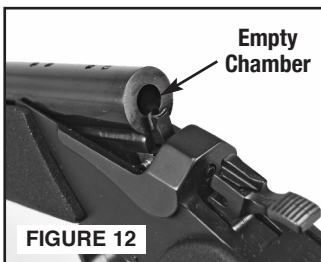

FIGURE 12
- Look into the barrel from the breech end to make sure there is no cartridge in the chamber (FIGURE 12).